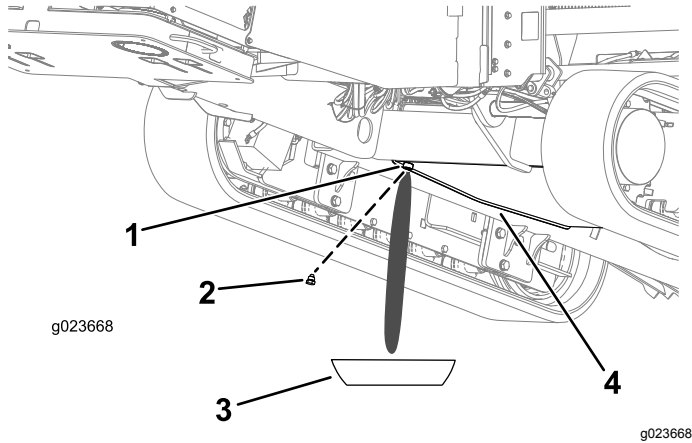

Figure 97
- Loosen the drain plug until the water and sediment drain out (Figure 97).